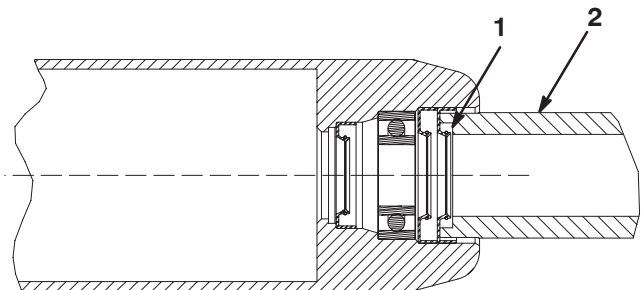

Figure 8
11. Repeat the procedure to install the second outer seal (Fig. 8).